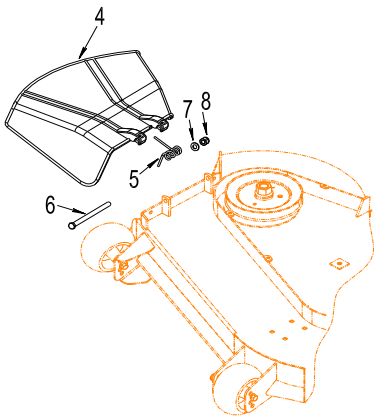

FIG 1
a) Remove Part No. 4 and 5 from the mower deck. (Keep the removed parts in a bag for later use.) Part No. 6, 7, and 8 are needed in installing deck discharge tube. (FIG 1)